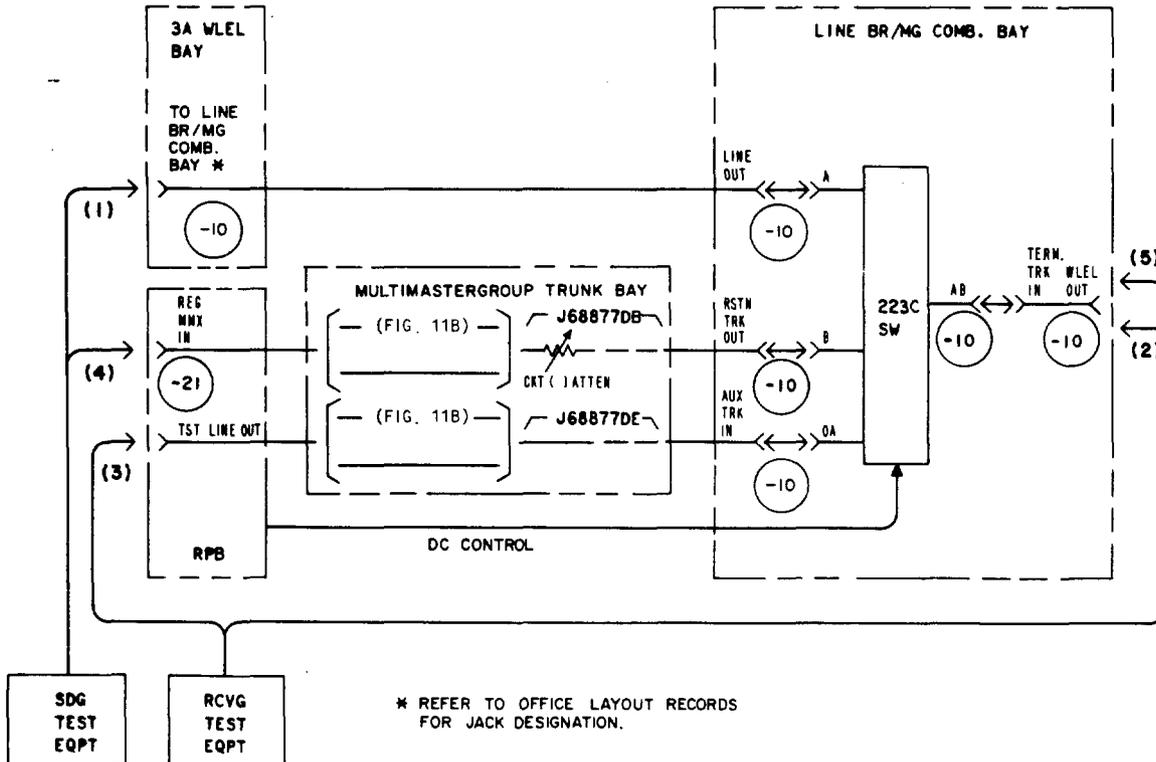

Fig. 8—Receiving Restoration Trunk for Mastergroup Branching
- 3 Connect the STE to the appropriate **TO LINE BR/MG COMB BAY** jack in the WLEL bay [patch (1), Fig. 8].
- 4 Connect the RTE to the WLEL OUT jack in the line branching/mastergroup combining bay [patch (2), Fig. 8].
7	Remove patch (2), Fig. 8.
9	Make patch (3), Fig. 8. Note: The operated 223C switch completes a signal path between the A and OA jacks on the switch.
11	Proceed to Step 12 if the requirement is met. Otherwise, continue signal tracing to locate and clear the trouble. Then repeat Steps 8 through 10. Note 1: Two zero-loss trunks (Fig. 9B) may be used in conjunction with this trunk. In this case, the zero-loss trunks should be tested as prescribed in Chart 9B. The zero-loss trunks are indicated in Fig. 8 by the designation Fig. 9B. Note 2: Chart 11 is a procedure for checking the cable equalizers in the J68877DB and J68877DE panels.
13	Remove patches (1) and (3), Fig. 8.
15	Connect the STE to the REG MMX IN jack in the restoration patch bay [patch (4), Fig. 8]. Note: The 223C switch operates.
16	Connect the RTE to the WLEL OUT jack in the line branching/mastergroup combining bay [patch (5), Fig. 8]. Note: The operated 223C switch completes a signal path between the B and AB jacks on the switch.